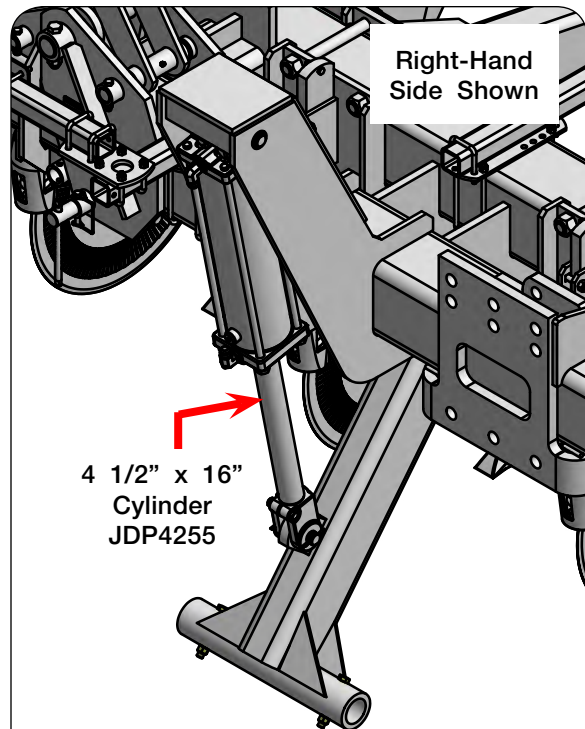

FIG. 2-8
2. Using a safe lifting device rated at a minimum of 100 lbs., lift and attach the 4 1/2" x 16" cylinder with pins and cotter pins (JDP4255) to the right-hand axle weldment as shown in FIG. 2-8.